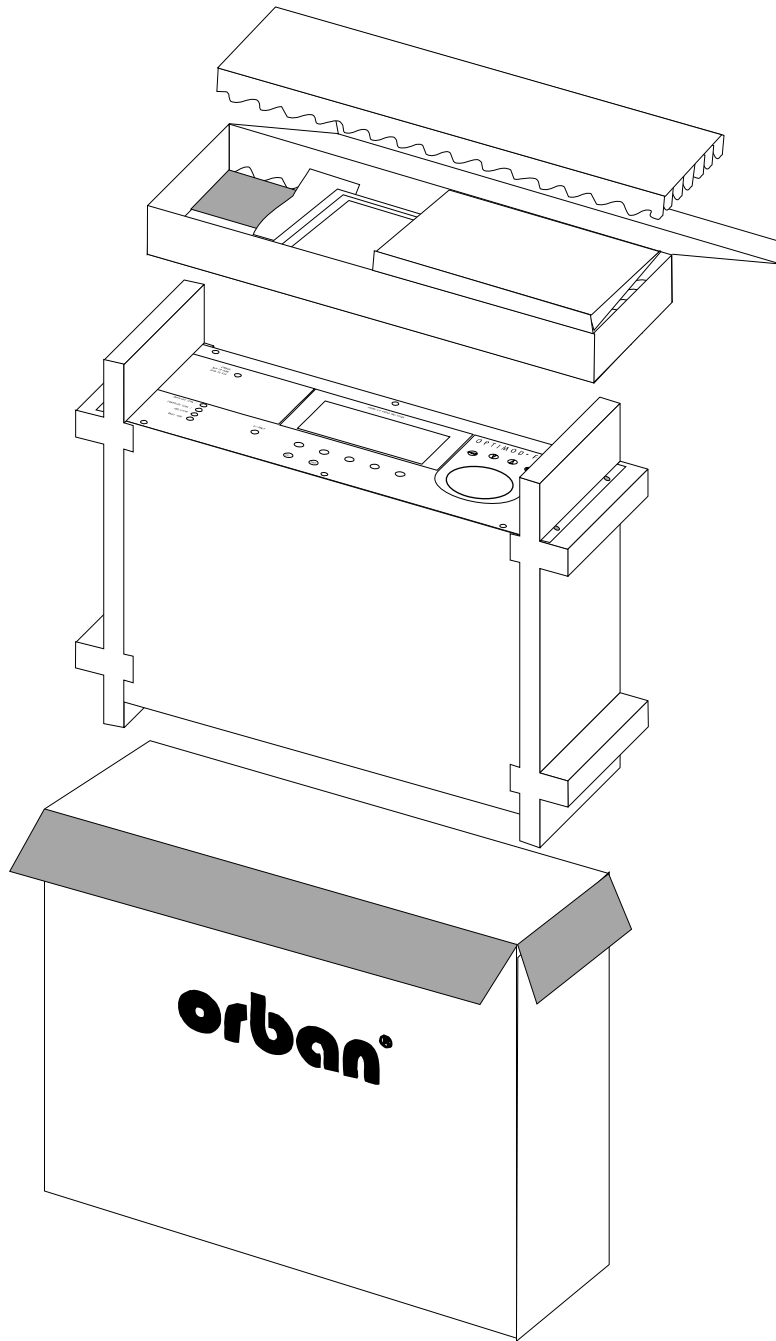

Figure 2-1: 8200 Packaging
2-2	Figure 2-1: 8200 Packaging
**A** Save all packing materials! If you should ever have to ship the 8200 (e.g., for servicing), it is best to ship it in the original carton with its packing materials because both the carton and packing material have been carefully designed to protect the unit. Re-package the unit according to Fig 2-1.